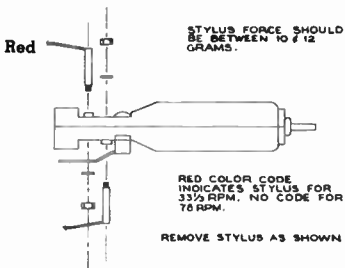

Figure V25.
14. **Removing Needles:** See figure V25.